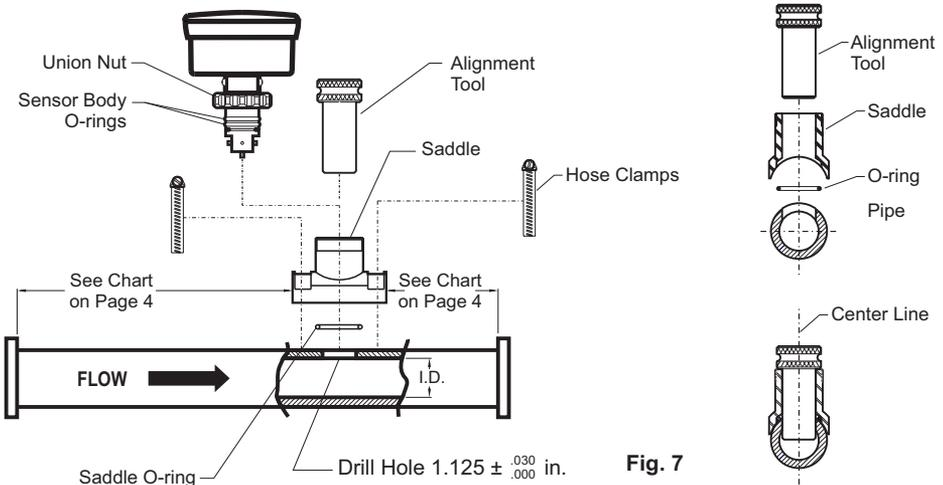

Fig. 7
- Be sure two O-rings are located on the sensor body (see figure 7). The O-rings have been lubricated at the factory with silicone oil.